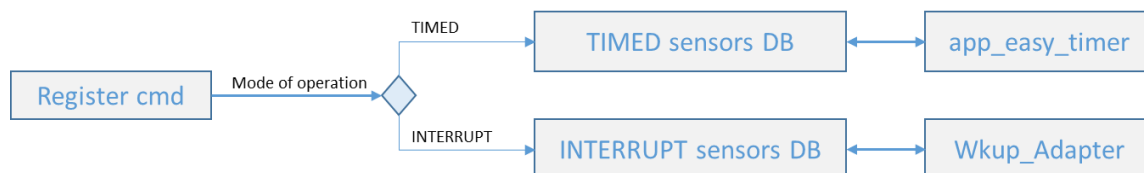

Figure 12: SI Registration Path
- The sensor registration procedure in SI module is shown in Figure 12.